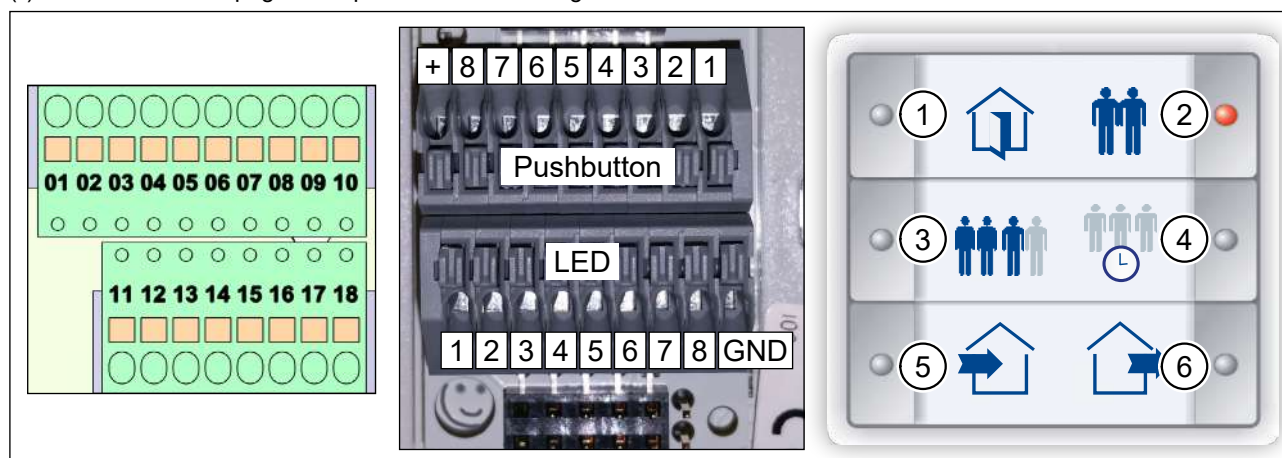

Fig. 27: Terminal blocks on ventilation unit, terminal blocks on InControl pushbutton sensor, insert sheet
- After wiring, place the insert sheet (Fig. 27) in the InControl pushbutton sensor.